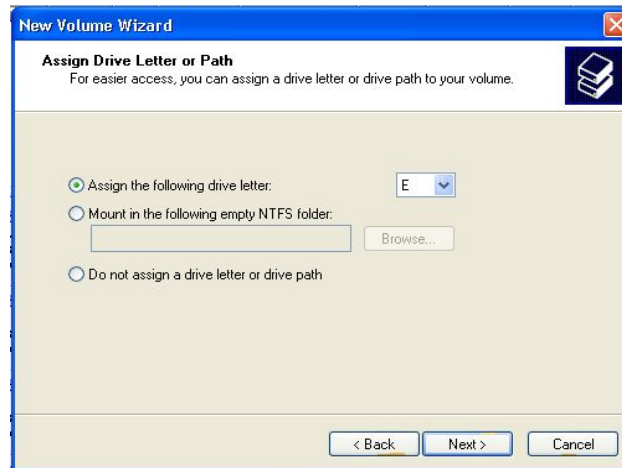

FIGURE 6-24. New Volume Wizard - Assign Drive Letters or Path Screen.
3. The *New Volume Wizard - Assign Drive Letter or Path* screen appears. Change the drive (array) letter, as desired. Click **NEXT >**. See Figure 6-24.